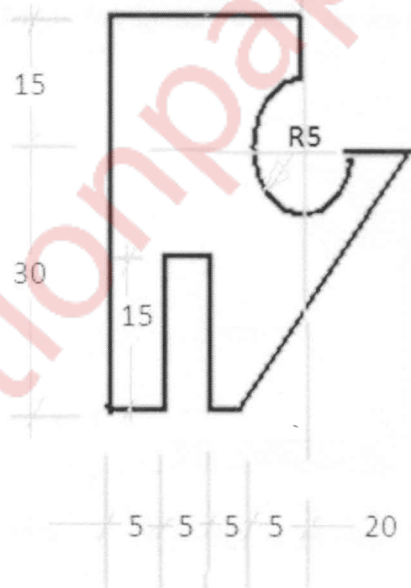

Figure No. 1
- (b) Find the Centre of Pressure for the Figure No. 1 and discuss on the use of COP. 08